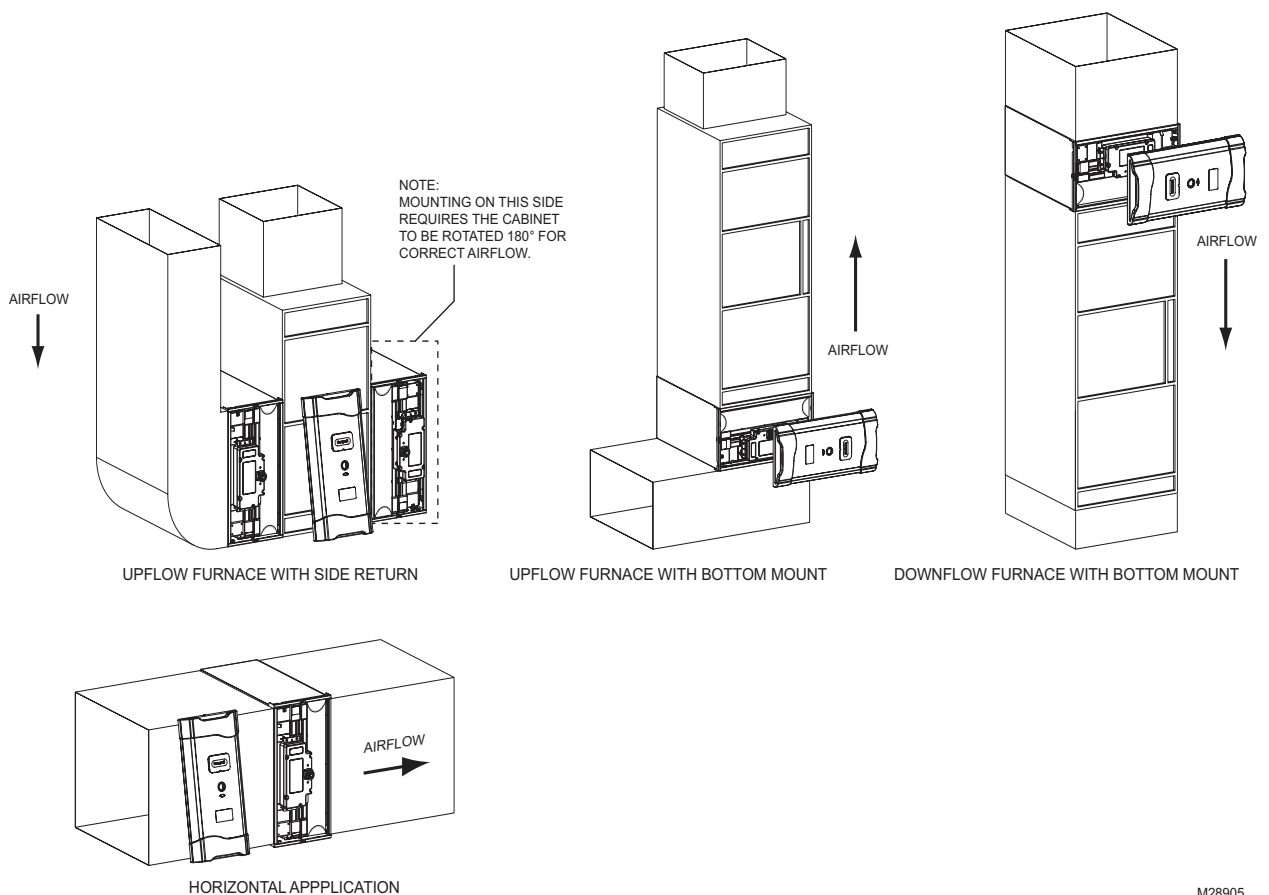
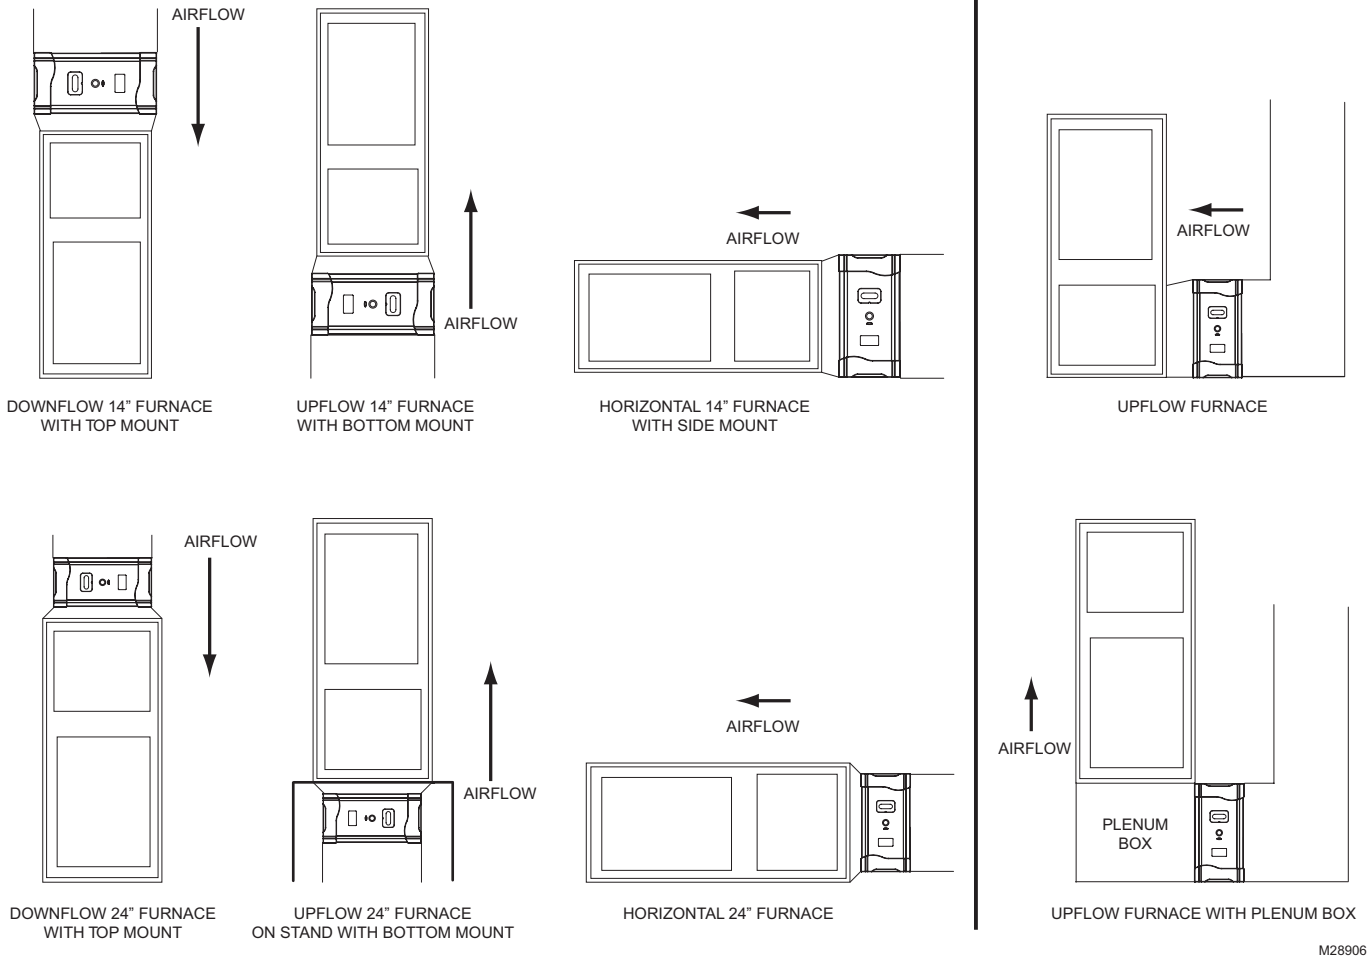
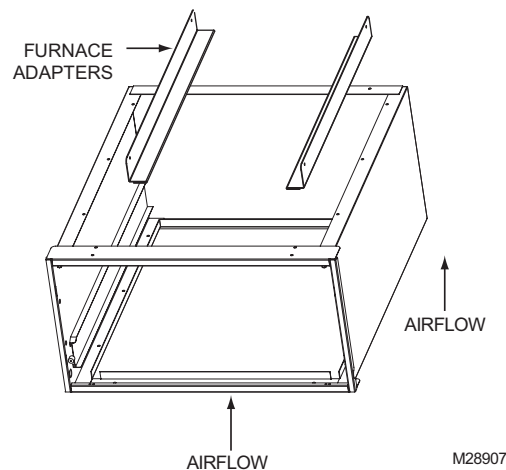
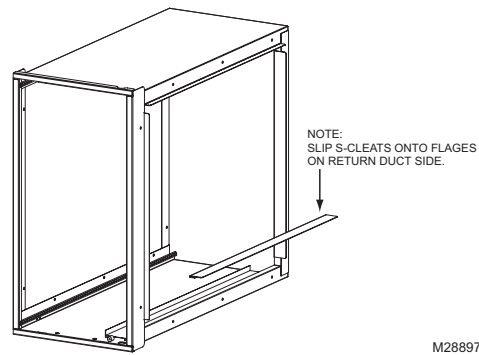

Fig. 7. Cabinet Orientation for FH8000F models.
Fig. 8. Cabinet Orientation for FH8000F with Transition.
Fig. 9. Use of Furnace Adapters.
Fig. 10. Use of Return Duct Adapters.
- Identify a mounting orientation for the Honeywell Enhanced Air Cleaner in the return air duct. See Fig. 7 and Fig. 8 on page 11.
- d. Position the cabinet between the furnace and return air duct (see Fig 7 on page 10, Fig. 8 on page 11, Fig. 9, and Fig. 10 on page 13). A transition duct may be required.
- e. Furnace adapters have been included for installer convenience. They are designed for top or bottom mount installations (see Fig 9).
- f. Return air duct adapters have been included for installer convenience. They should be used to connect the upstream side of the Honeywell Enhanced Air Cleaner cabinet to the return air duct (see Fig. 10).